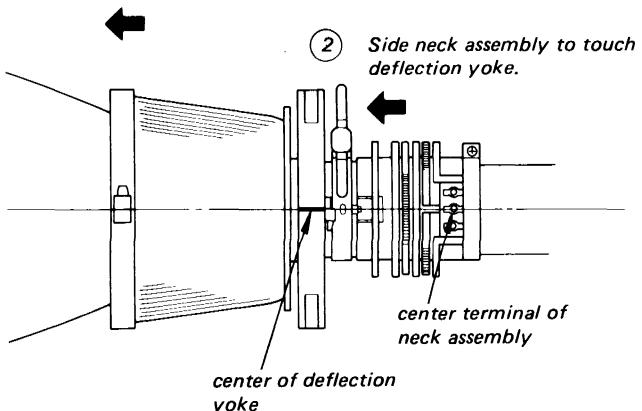

Fig. 3-27
- (3) Tighten the red deflection yoke screw in position.
- (4) Position the red neck assembly as shown in Fig. 3-27, and tighten the neck assembly screw in position.
① Slide deflection yoke as far forward as it will go.